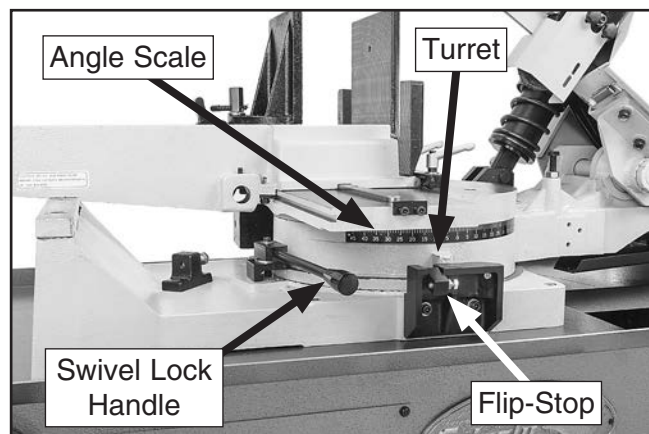

Figure 51. Controls for returning headstock to 90° position.
3. Rotate flip-stop out completely, as shown in **Figure 51** on **Page 37**.
2. Loosen swivel lock handle (see **Figure 51**) and rotate headstock slightly past "0" on angle scale.
3. Rotate flip-stop back in and move headstock until turret (see **Figure 51**) contacts flip-stop bolt, then tighten swivel lock handle.